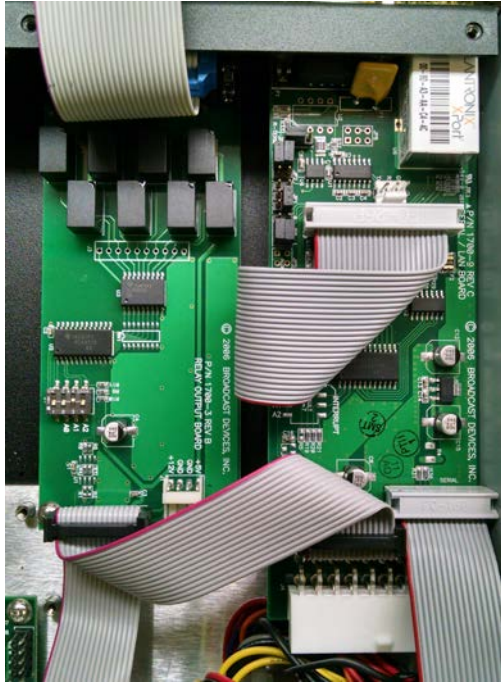

Fig. 1 Audio Alarm Status Board Installation
3. Install the Alarm Status Relay board using the supplied hardware. Take care not to overtighten the hex jack screws see Fig. 1